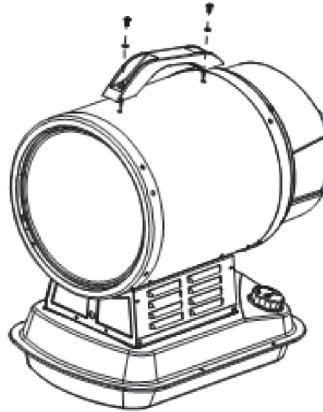

Fig. 1
1. Attach the handle by lining up the holes in the handle with the holes on the upper shell / housing of heater (**see Fig.1**).